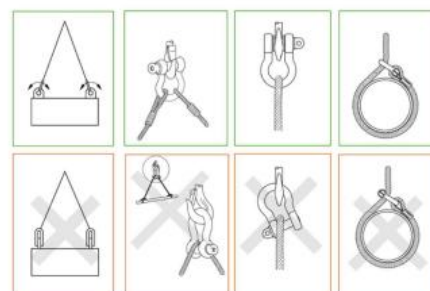

Figure 2
- Always use the shackles as shown in fig. 2